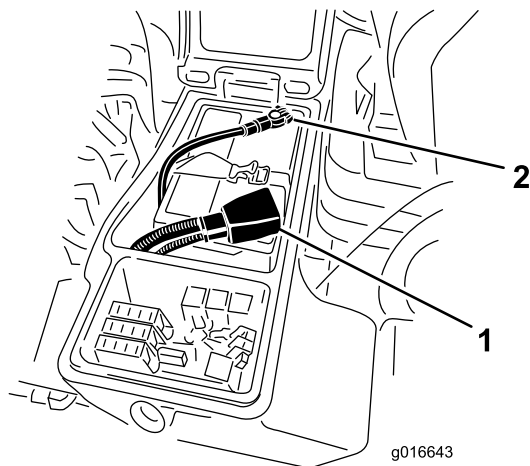

Figure 64
4. Install the positive cable (red) to the positive (+) terminal and the negative cable (black) to the negative (-) terminal of the battery (Figure 64). Secure cables to posts with capscrews and nuts. Make sure that the positive (+) terminal is all of the way onto the post and the cable is positioned snug to the battery. The cable must not contact the battery cover. Slide the rubber boot over the positive terminal to prevent a possible short from occurring.